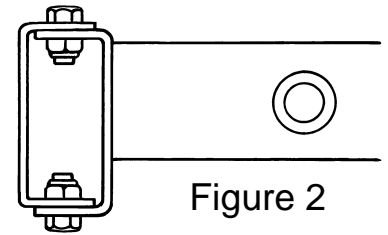

Figure 2
4. Install the new crossmember into the frame with the main tube flush with the tops of the inside frame rail formed end brackets. Align the crossmember in the frame, aligning the top, front hole in the formed frame end bracket with the existing hole in the frame. The front surface of the crossmember should be located 31-3/4" back from the top hole on the 4-link brackets, see Figure 1. If you do not have an existing hole in the top of your frame, position the crossmember as shown in Figure 1. The lower flanges go under the frame rail flanges, not inside the rails. The bottom edge of frame rail may need trimming to fit bracket. See Figure 2. Drill the remaining 3/8" holes in the frame rails to match the end brackets. Fasten the crossmember to the frame using the 3/8-16X1" bolts and lock nuts provided.